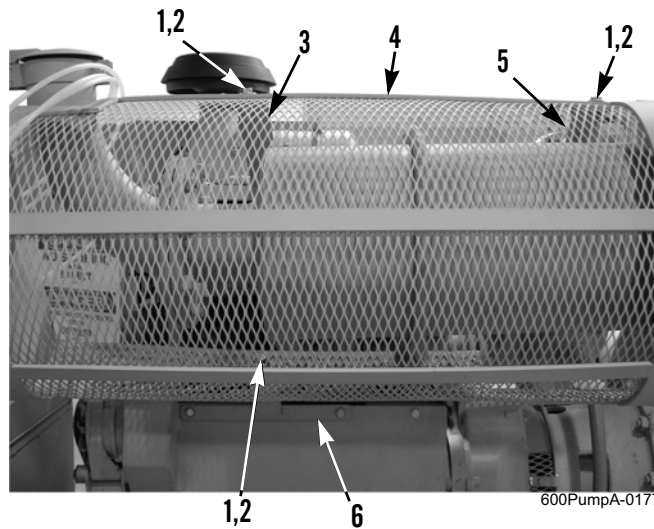

Figure 1. Heat Shield.
1. Remove three bolts (Figure 1, Item 1) and locknuts (Figure 1, Item 2) from heat shield (Figure 1, Item 4), rear bracket (Figure 1, Item 5), upper bracket (Figure 1, Item 3), and lower bracket (Figure 1, Item 6). Discard locknuts
1. Position heat shield (Figure 1, Item 4) on rear bracket (Figure 1, Item 5), upper bracket (Figure 1, Item 3), and lower bracket (Figure 1, Item 6) and install three bolts (Figure 1, Item 1) and new locknuts (Figure 1, Item 2).